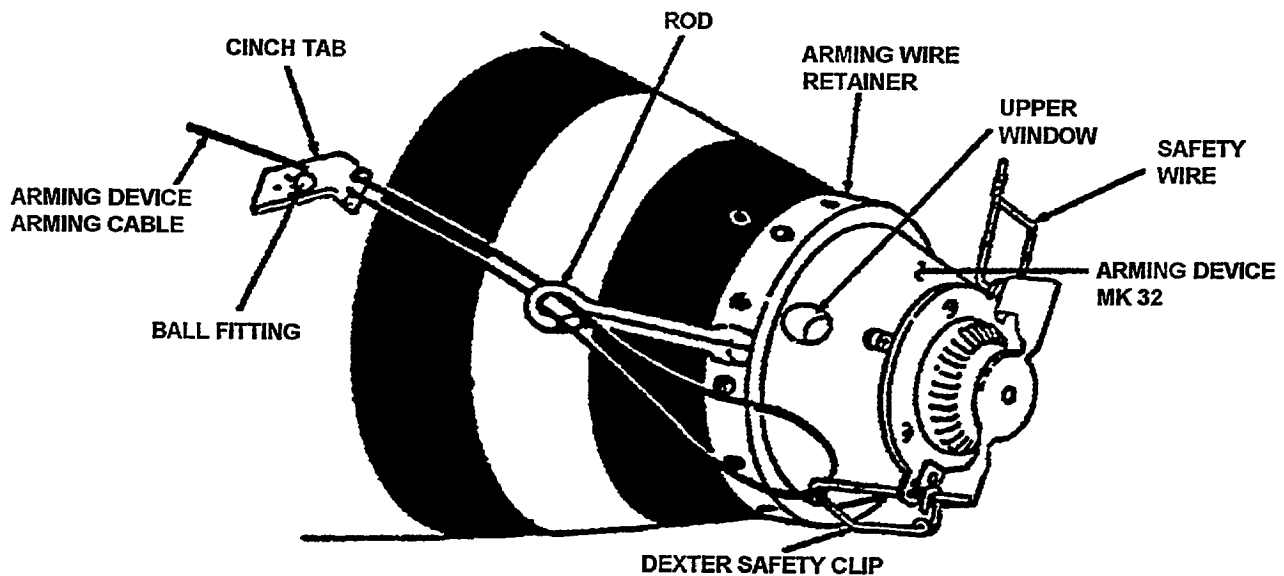

Figure 5-1A. Arming Device Arming Cable Removal
- Verify that a white "S" on a green background is visible in the upper window of arming device (Figure 5-1A).
- b. Verify that the safety clip attached to arming device arming cable is installed in arming device vane (Figure 5-1A).
- c. Verify the Dexter clip attached to the arming device cable is installed in the other set of arming device vanes (Figure 5-1A).